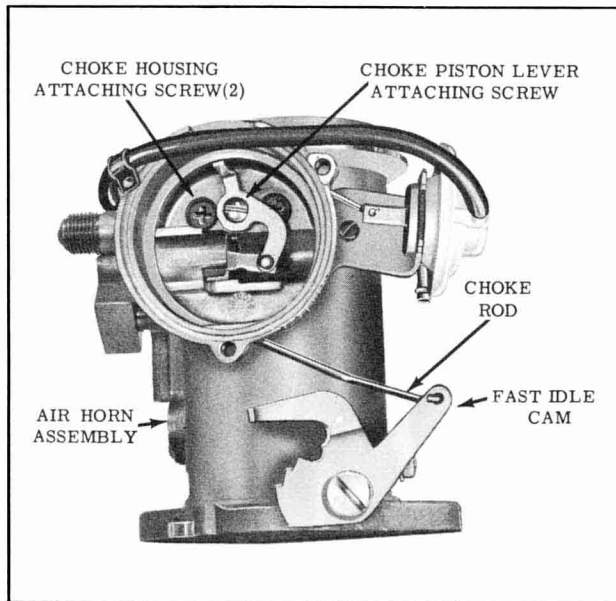
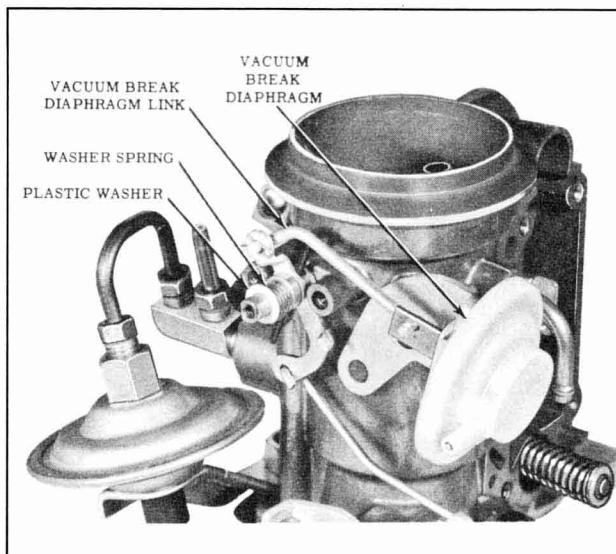

Fig. 9-120 Air Horn Assembly
Fig. 9-121 Vacuum Break Diaphragm
1. Remove fast idle cam attaching screw. Fast idle cam can now be removed from the air horn assembly and the link connecting to the choke shaft lever. (Fig. 9-120)
4. Remove the choke piston lever attaching screw, then remove the lever link and piston assembly from the choke housing. (Fig. 9-120)
5. Remove the two choke housing attaching screws, then remove the choke housing and spring-loaded plastic washer from the air horn assembly. Remove washer spring. Now the hairpin clip on vacuum break diaphragm link can be removed. (Fig. 9-121)
fastening with hairpin clip on choke lever end of link. (Fig. 9-121)
3. Assemble plastic washer and spring to choke housing. Install the choke housing on the air horn assembly with two attaching screws. Tighten attaching screws securely. (Fig. 9-121)
5. Install choke baffle plate inside choke housing, then install thermostatic coil and cover assembly, retaining with three (3) screws.
7. Install choke link and fast idle cam (looped ends of choke rod should face outward away from air horn casting). Install fast idle cam attaching screw and tighten securely. (Fig. 9-120)